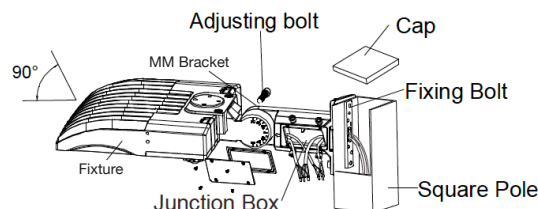

Fig. 19
2. Fix the MM bracket to square pole with bolt, open the access cover of the MM bracket junction box, pull the wire into the bracket junction box, connect the wire properly and cover the junction box (Fig. 19). Note: Adjustable angle is 0-90° Same as round pole installation, please remember to use the adapting plate for round pole installation (Fig. 20).